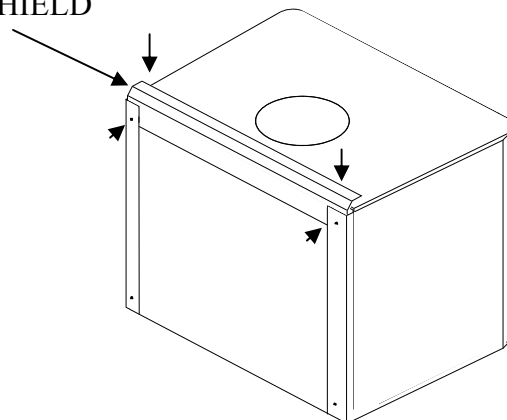

Figure 11c
3. Loosen two top screws holding side shield at rear top. Insert pipe shield where back shield and top rear side shield meets. Tighten screws. (See figure 11c).